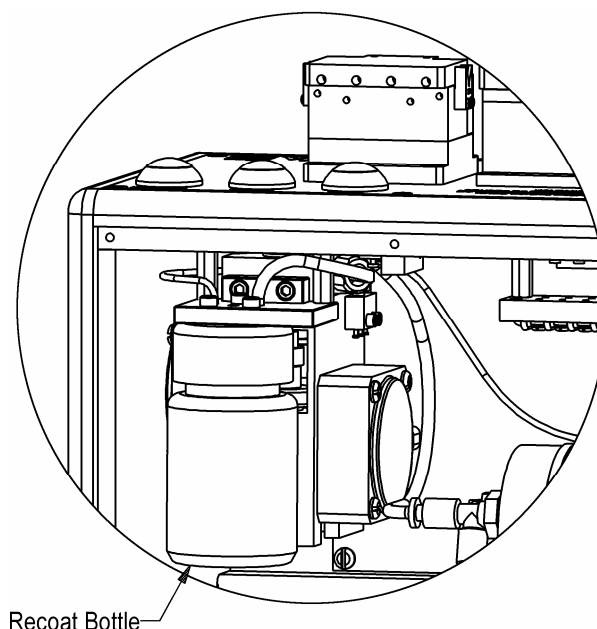

Figure 21: Recoat bottle access
2. Remove the front plate of the MRL by using the 3/32 Allen wrench provided in the tool kit to remove the four (4) black socket-head cap screws located at the corners of the plate.
3. The recoat pump is located on the left side of the MRL as shown in Figure 21. Unscrew the brown recoat bottle located at the front of the pump and remove by angling out through the front opening. The red Fill tube will flex to allow removal.
5. Screw the new recoat bottle into place and replace the front panel and the four (4) socket head cap screws.